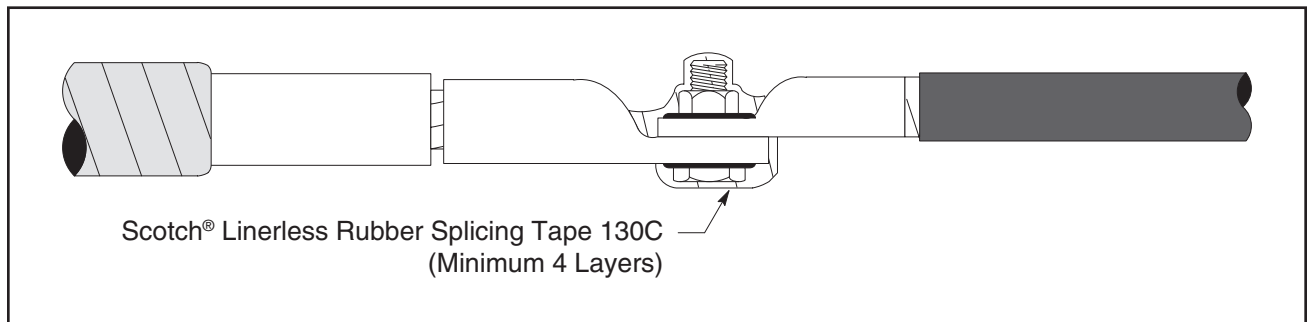

Figure 13
- 8.5 Wrap rubber tape over bolts to round off sharp edges. Apply a minimum of four layers over each bolt end. Use medium tension when applying (*Figure 13*).